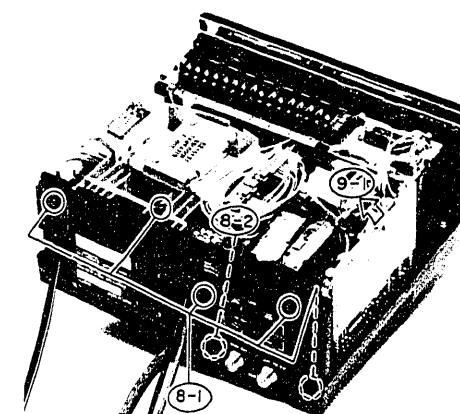

Fig. 30
8. Tuner/IF PC Board (Fig. 30)
9. Remote control PC Board (Fig. 30)